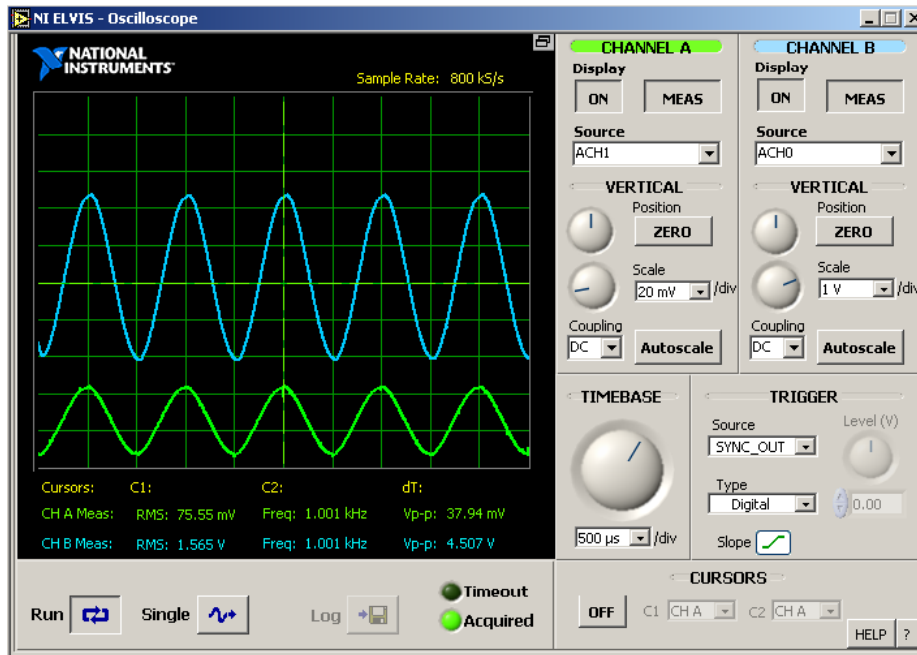

Fig. 8. Oscilloscope output with output on ACH0+/ACH0- trimmed to have close to zero DC offset.
5. Use the oscilloscope SFP from Elvis to observe both the input and the output on channels ACH1 and ACH0 respectively. Now adjust the 20K potentiometer to balance the output waveform to be around 0V as close as possible. As the 20K potentiometer is adjusted the waveform on Channel B should move to be as close to being symmetric around zero DC voltage as possible. This is shown in Fig. 8. Now we have calibrated the DC offsets of the Opamp.